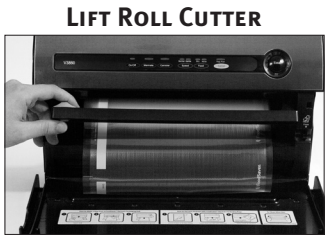

Fig. 1
- 1. Open appliance door and place roll into Roll Storage Compartment (H). For Best results, insert roll with material flap down. **Note:** Bags can be sealed with appliance door either open or closed.
- 2. Lift up Bag Cutter Bar (i) and place bag material beneath the cutter bar (See Fig.1).